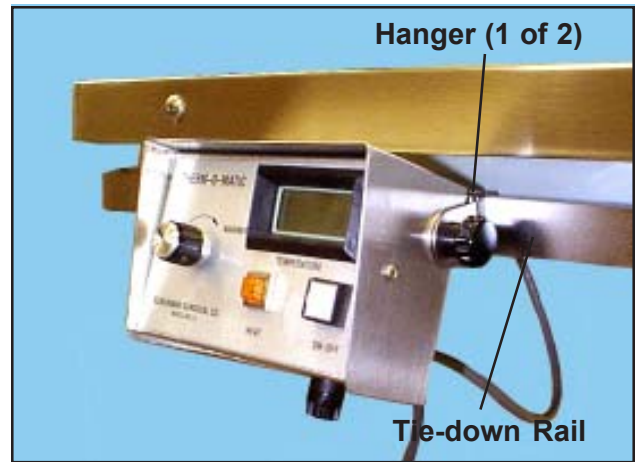

Figure 5. Mounting the Heat Controller
9. Hang the heat controller on the tie-down rail at a convenient location (Figure 5).